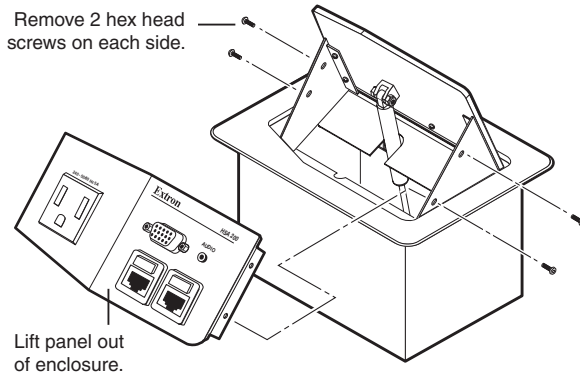

Figure 25. Front Panel Removal (HSA 200 Models)
3. Slide the gas lift mounting plate toward the center of the enclosure, releasing the mounting plate (see figure 25).
4. Turn the gas lift mounting plate counterclockwise until the plate comes free from the shaft of the gas lift (see figure 25).
6. **(HSA 200 models only)** Remove the four 1/16" hex head screws on the right and left sides of the front panel (see **figure 25** on the next page). Retain the screws. Lift the panel away from the enclosure.
NOTE: Figure 25 shows an HSA 200 model. Removing the front panel from an HSA 222 is an identical procedure.